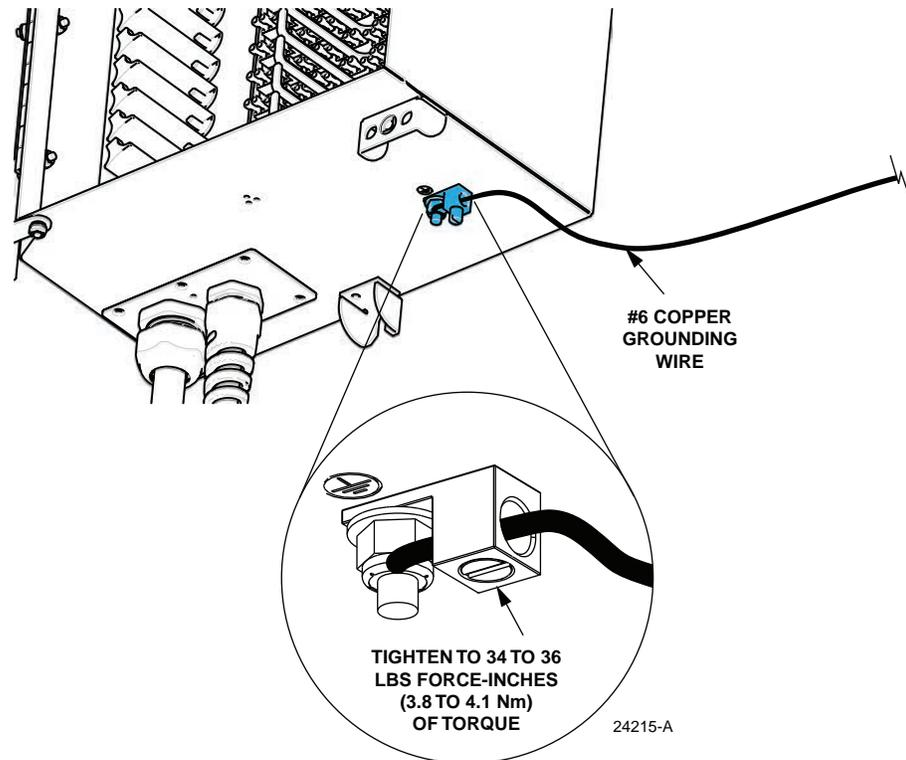

Figure 6. Grounding Wire Connection To Cabinet
1. Locate the cabinet grounding lug which is mounted on the underside of the cabinet as shown in Figure 6.